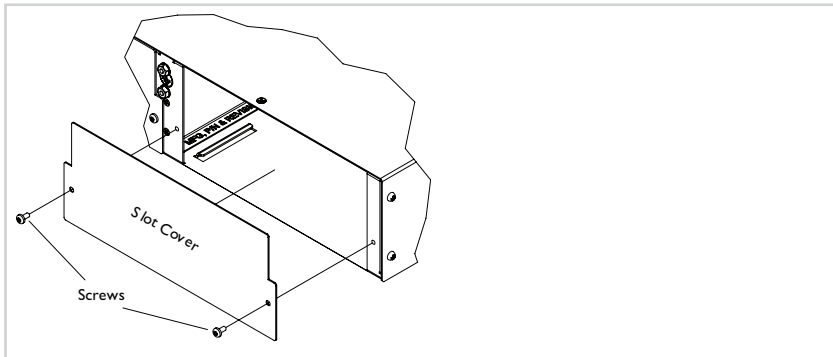

Figure 4: Remove Slot Cover
1. Remove and keep the two (2) 6-32 philips head screws attaching the slot cover to the chassis. See Figure 4.